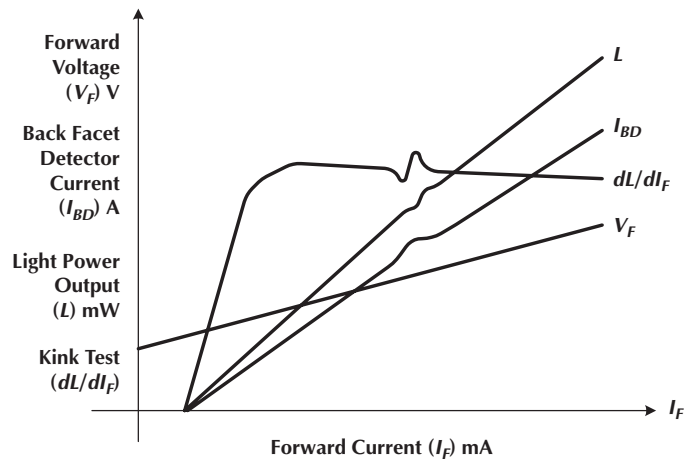

Figure 4. Typical Suite of L-I-V Curves
This test verifies the proportionality of the relationship between the drive current (I_F) and the light output (L) as depicted in **Figure 4**. The relationship between the drive current (I_F) and the light output power (L) should be linear about the nominal operating range. If the relationship is truly linear over the tested range, the first derivative of the curve will be a nearly horizontal line. This is graphed as dL/dI_F . The first derivative will tend to amplify any bumps or kinks in the L- (I_F) curve. If this curve has any significant “kinks” or, in other words, is not smooth, the laser is considered defective. If operated at the I_F value corresponding to the “kink,” the light output will not be proportional. The maximum value of the second derivative of the L vs. I_F curve can be used to calculate the threshold current, which is the value of the drive current at which the LD starts “lasing” or outputting significant light.